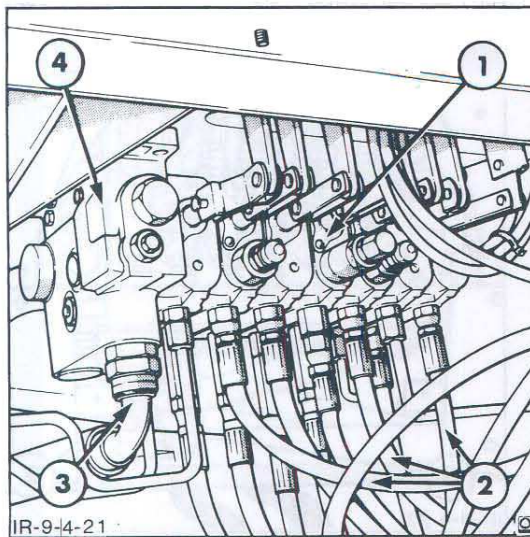

Figure 22
7. Disconnect the exhaust tube from the valve assembly, Figure 22.